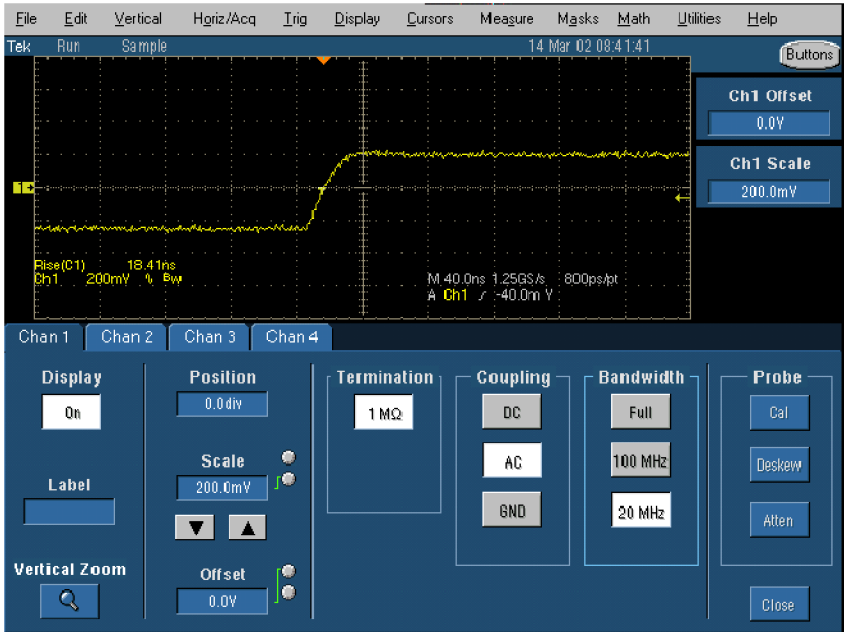

Figure 15: Typical waveform at 20 MHz bandwidth
8. Set bandwidth to 20 MHz. The resulting waveform should appear as shown. (See Figure 15.)